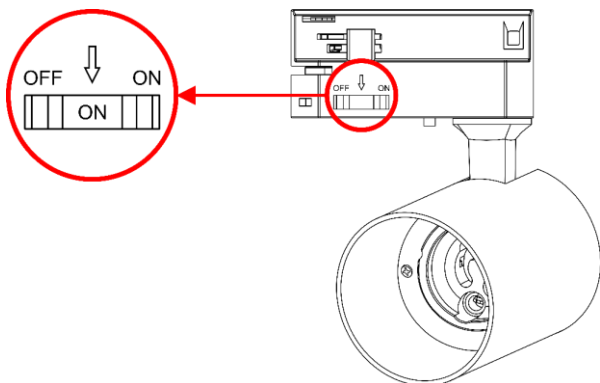

Fig. 09
05) Select ON with the **power switch (05)** as shown in Fig. 09.